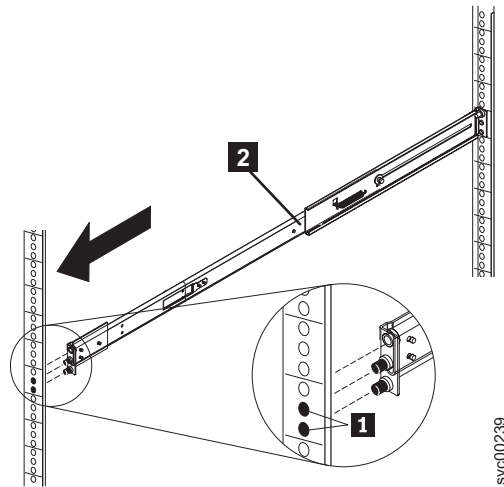

Figure 61. Extending the right slide rail
4. Extend the right slide rail **2** and insert it into the front rack mounting flange, as shown in Figure 61 on page 77, with the rail pins **1** protruding through the